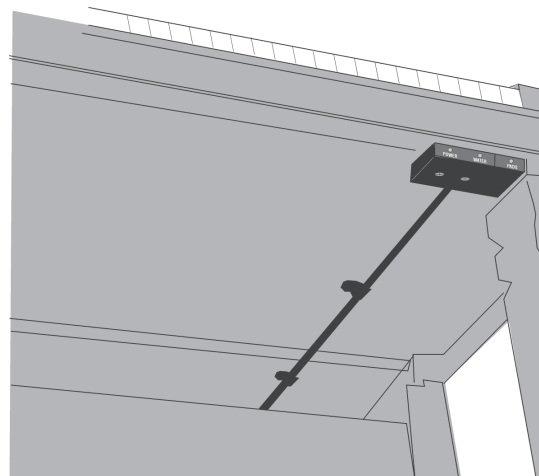

FIGURE 19
To mount the light panel select (2) 19 mm screws and (3) 5 mm clamps with (2) 13 mm screws. Now, run the light panel cord so that the panel is at an appropriate location under the keybed. Usually this is at the extreme treble end beside the leg of the piano. Use the two 19 mm screws to attach the light panel under the keybed (**Figure 19**). Take the phone jack adaptor from the light-panel and plug it into the Humidistat outlet marked **LIGHTS**.